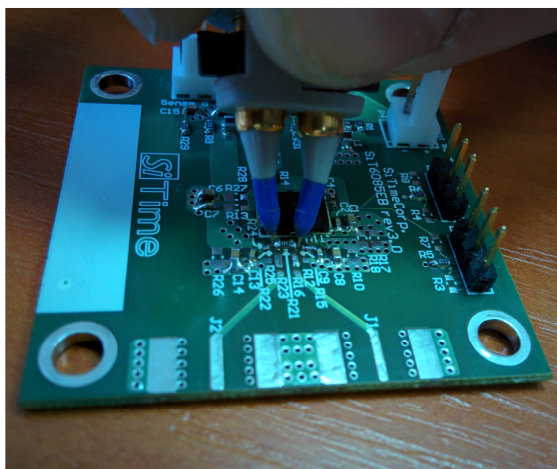
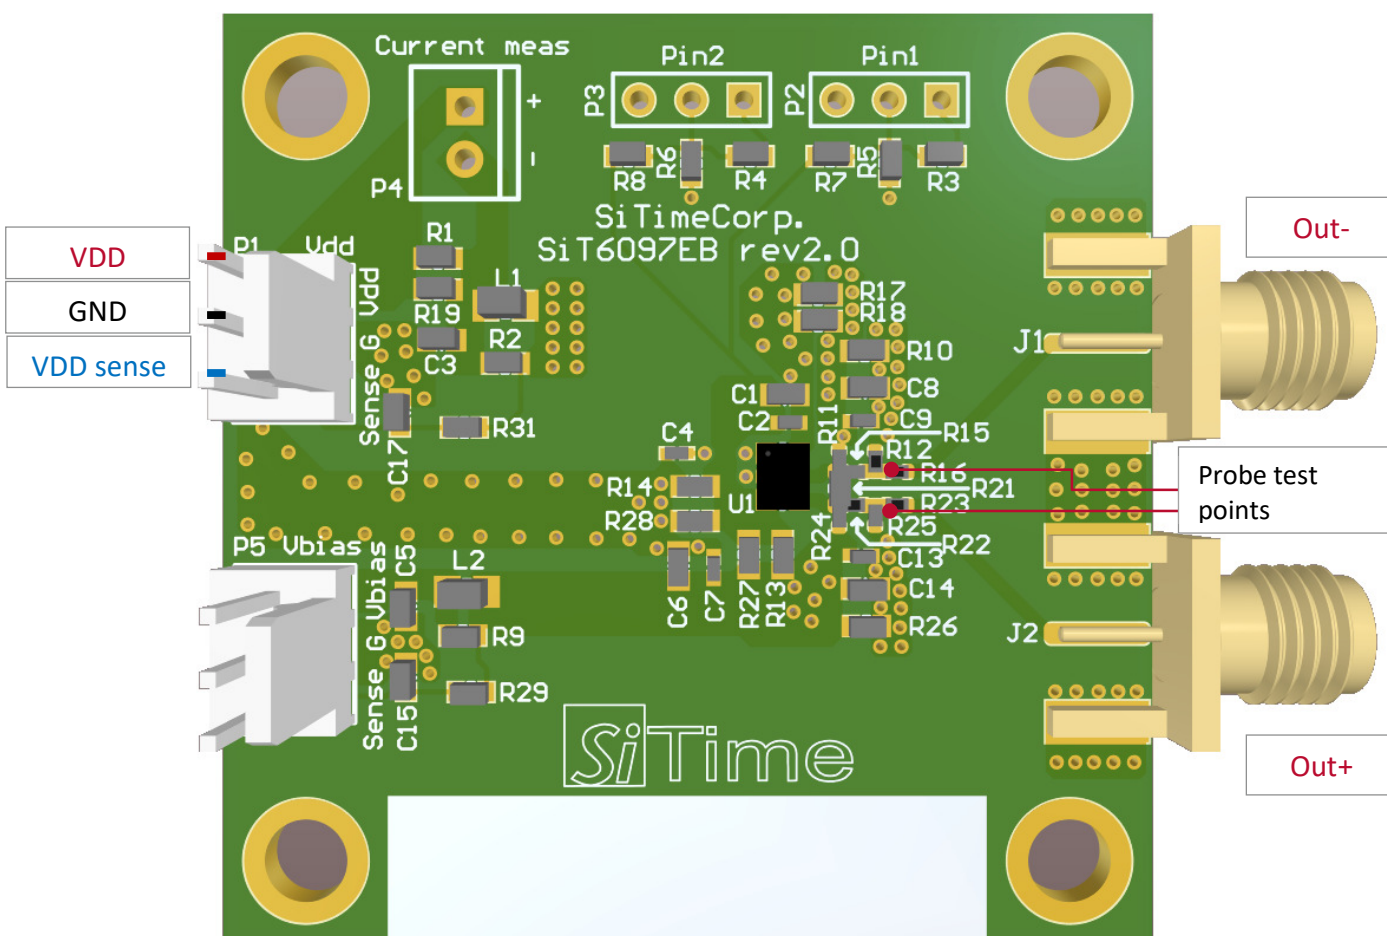

Figure 9. Differential browser (high impedance active probe) on test points for waveform capture on SiT6097EB.
Figure A2: SiT6097EB layout
| J1 and J2 | OUT+ and OUT- | Oscillator output (Out+ and Out-) can be accessed either using active probe or SMA connector. The test points for active probe are placed closely to the oscillator output for better signal integrity (see Figure A2). Section 3.2 describes in details the recommended measurement configurations. |
SiT6097EB can be configured to support three configuration modes including XO/TCXO with output enable (OE), XO in Standby (ST), Spread Disabled (SD), Voltage Control (VC) or Digital Control (DC). The test points for active probe are placed closely to the oscillator output for better signal integrity (see Figure A2 and sections 3.1.1, 3.1.3, 3.1.5, 3.1.7).
Please refer to Figure A2 for test point locations on the SiT6097EB. Please refer to Figure 9 for probing example on the EVB using active probe.